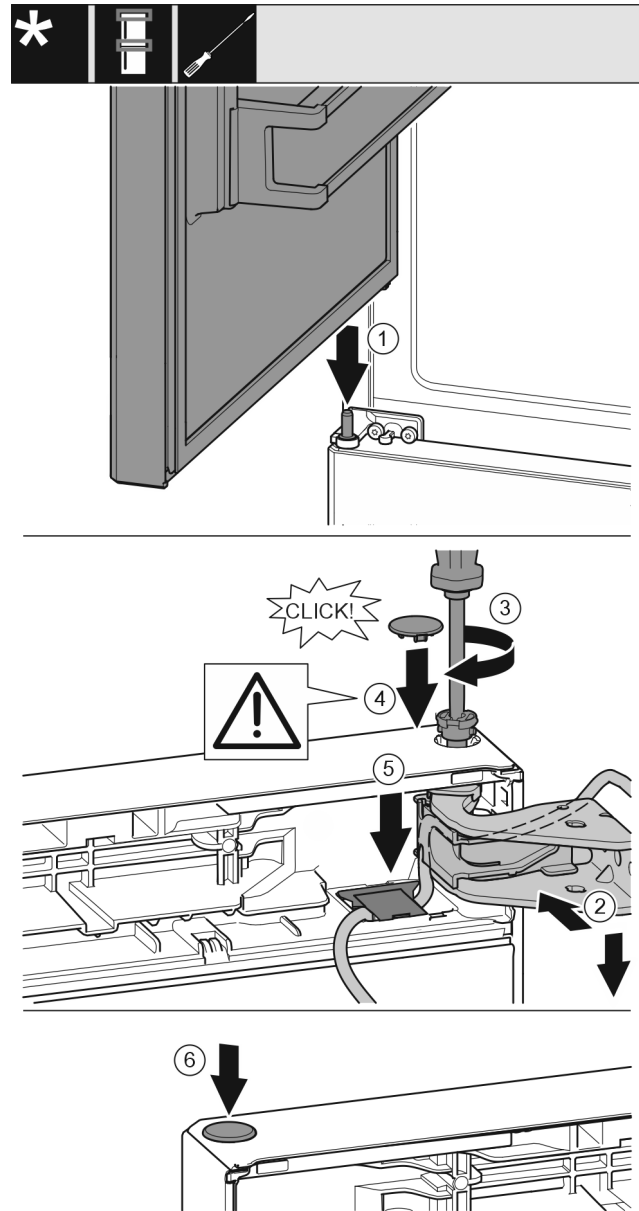

Fig. 40
- Place the upper door on the center bearing pins Fig. 40 (1)
- Align the top of the door with opening in the bearing bracket. Fig. 40 (2)
- Insert the bolt and tighten with a T15 screwdriver. Fig. 40 (3)
- Fit the protective cover to protect the door: Insert the protective cover and check that it lies flush on the door. If not, insert the bolt fully. Fig. 40 (4)
- ▶ Insert the cover and press it down until it latches into place. *Fig. 40 (5)*
- ▶ Insert the plugs. *Fig. 40 (6)*